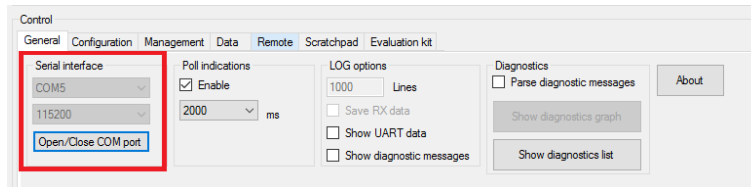

Figure 8: Open COM port
- i. Select the right COM port of the Thetis-I evaluation board and press the "Open/Close COM port" button (see figure 8).